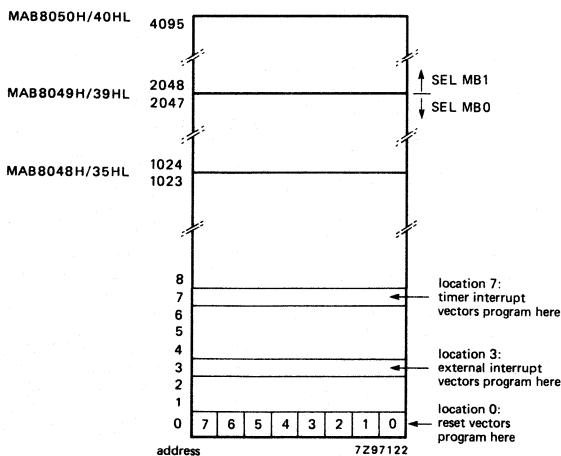

Fig. 3 Program memory map.
**Program memory (see Fig. 3)**